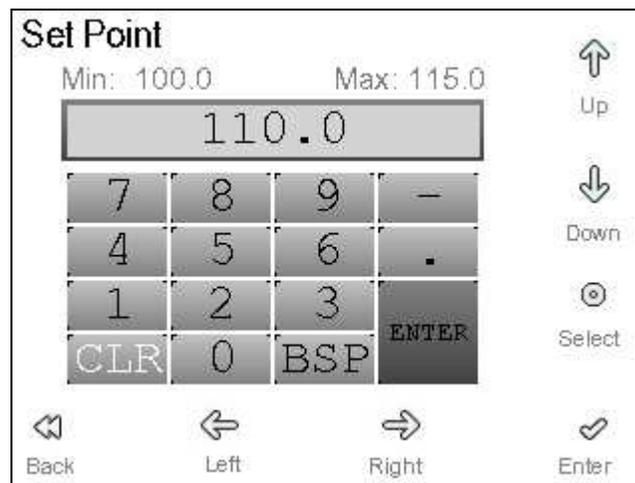

Figure 3-7: Load Pressure Numeric Key Pad
3. Press the **Enter** button. The **Load Pressure** numeric keypad will appear as illustrated by Figure 3-7.